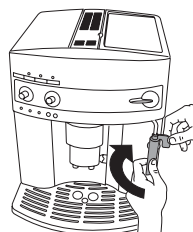

Figure 22
- With one hand, hold the milk frother handle and with the other hand unscrew the milk frother by turning it clockwise and then pull it down. (Figure 22)